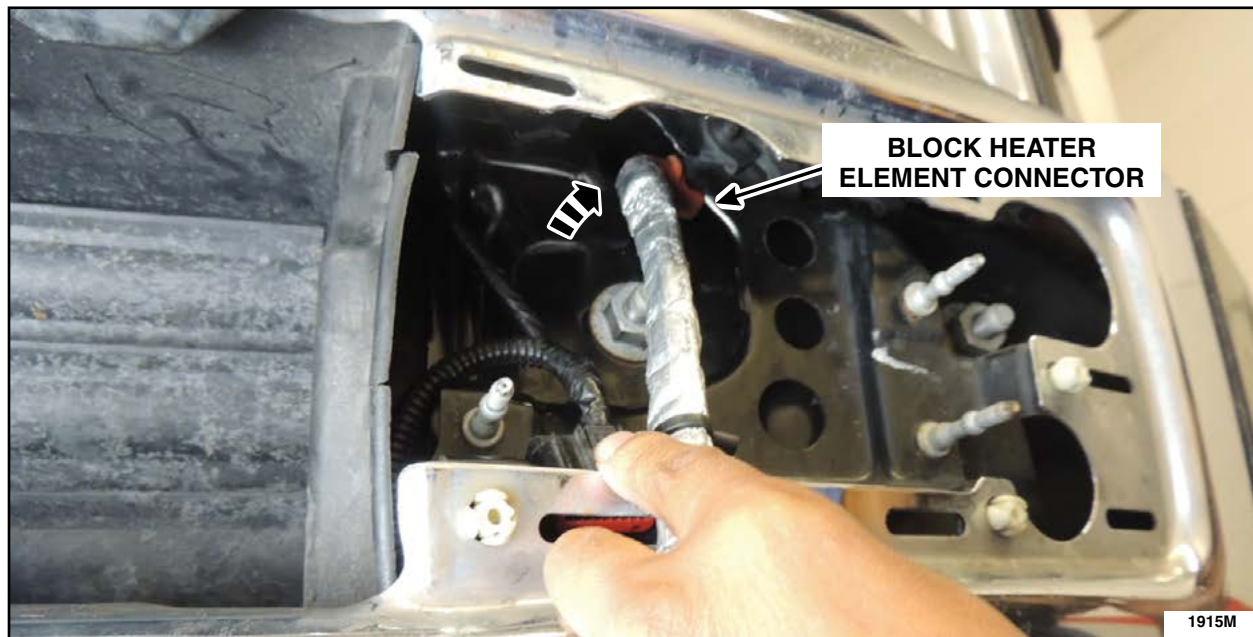

FIGURE 17
18. Route the block heater cable, starting with the block heater element (orange) connector, through the left front side of the bumper. See Figure 17.